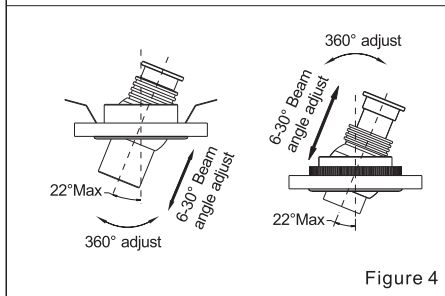

Figure 4
3. Fixture Angle Adjustment (Figure 4)